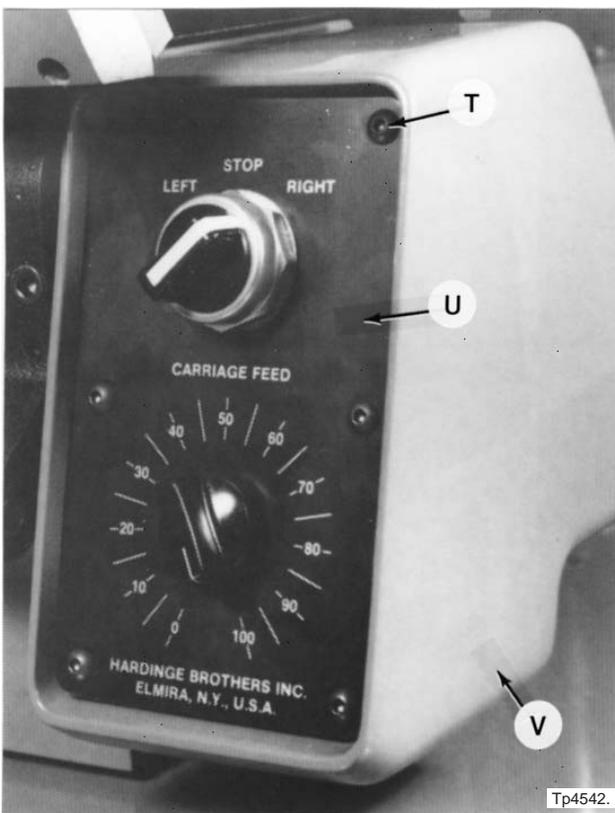

Figure 5.5 - Power Feed Control Panel
3. Remove six screws "T", Figure 5.5.